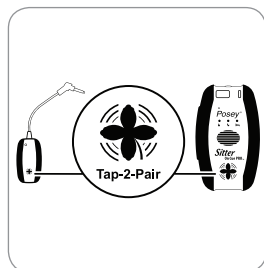

Fig. 13
- For Wireless Nurse Call Adapter: See IFU provided with the Nurse Call Adapter for instructions on pairing the adapter to the fall monitor and connecting to the nurse call system. (Fig. 13)